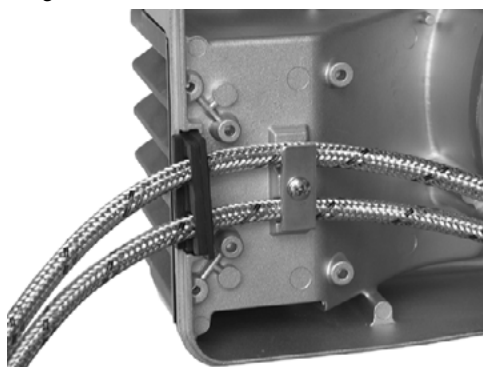

Fig. 33
- 4 Fix the flexible hoses as shown on Fig. 33